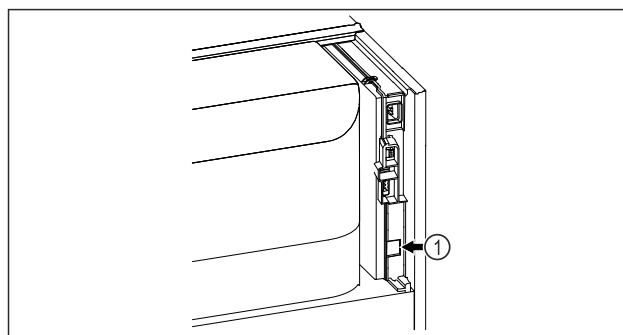

Fig. 180
- ❑ SmartModule Fig. 180 (1) is in use.